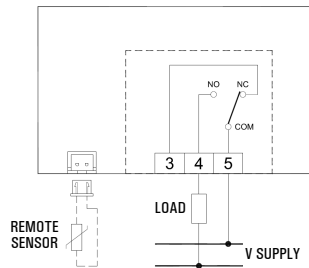

Fig. 7
- 5 Make the electrical wirings following the connection diagrams of Fig. 7 and 8.
The outputs, terminals 3, 4 and 5, are tension-free and insulated with double insulation from the other parts of the thermostat. So, it is possible to power an high voltage load (230V ~), as can be seen in Fig. 7 and 8. In this case it is necessary to keep a separation between the remote sensor cables and the load wires, according to the current standards. In particular, it is necessary to fix the group of cables with cable ties separating the SELV wires from the others to avoid that if a wire gets disconnected accidentally, this won't reduce the insulation towards SELV.